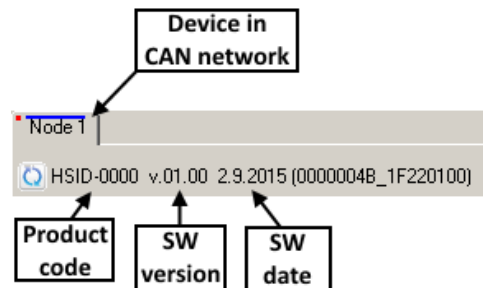

Fig. 6.6 List of devices in the network
1. If UniCON is not running, start it. After starting the program a list of devices present in the CAN network should be formed – see Fig. 6.6:
1. If UniCON is not running, start it. After starting the program a list of devices present in the CAN network should be formed – see Fig. 6.6.